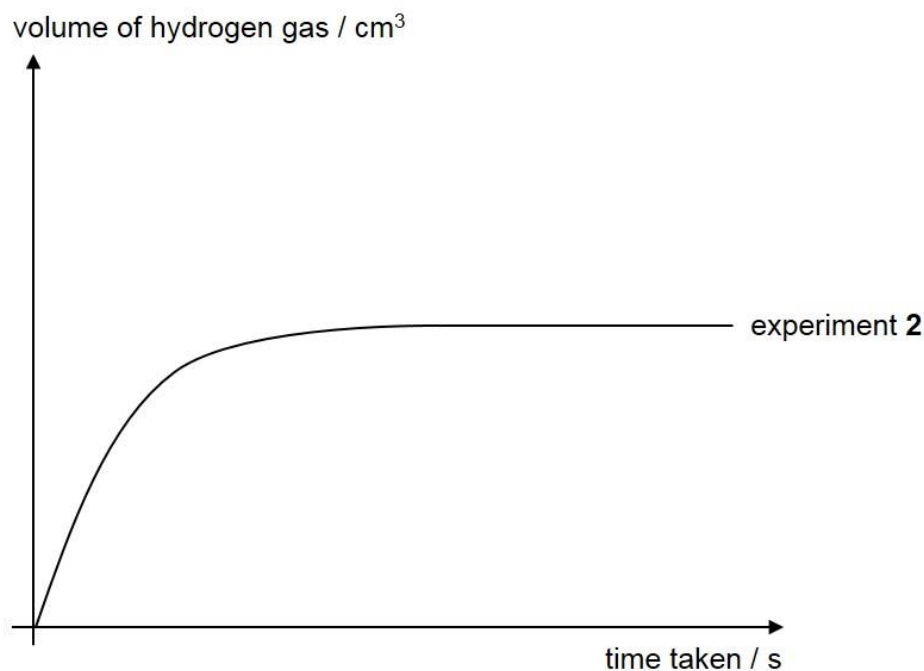

Fig. 5.2
- (ii) Fig. 5.2 shows the graph of volume of hydrogen produced against time for experiment 2.
Sketch and label on Fig. 5.2 the graphs of volume of hydrogen produced against time for experiments **1** and **3**. [2]